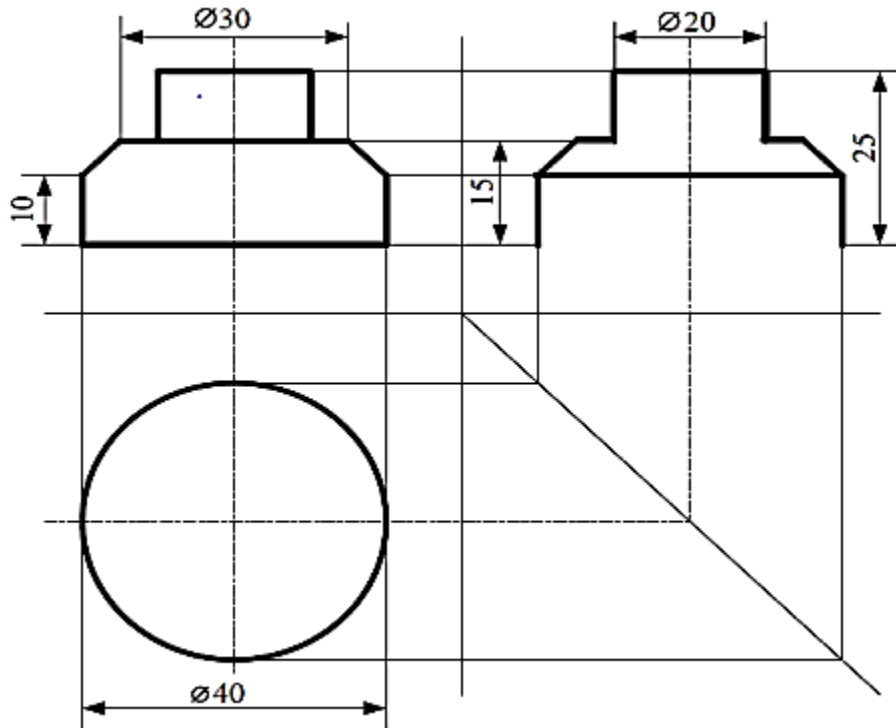

Figure 1
3. (a) Figure 1 shows uncompleted view draw in orthographic projection, complete the view by adding the missing lines.